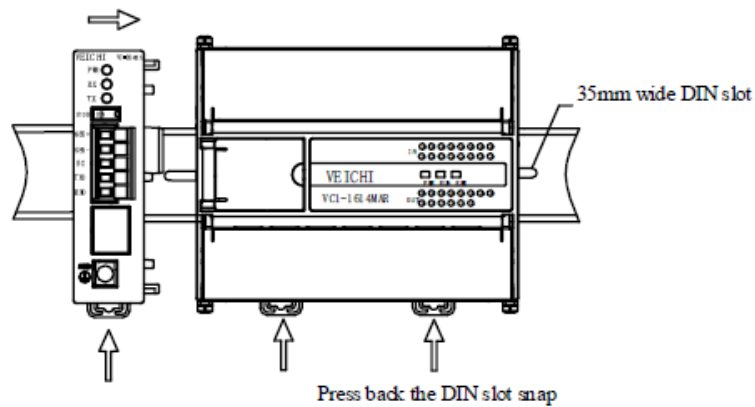

Figure 5-2 Fixing with DIN slot
- The installation method is the same as that for the main module, please refer to the VC Series Programmable Controllers User Manual for details. An illustration of the installation is shown in Figure 5-2.